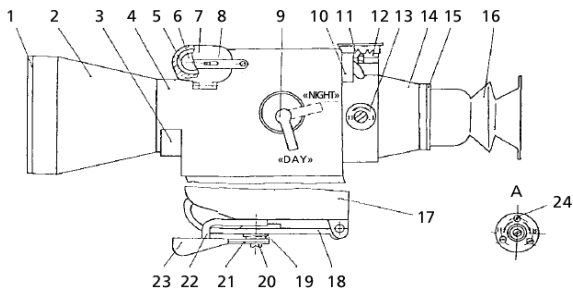

Figure 2
The sight consists of following components: objective (2) (figure 2) with mounted light filter (1), switching mechanism (4), eyepiece (14), and interchangeable mount (17) with fixing mechanism.
The sight has following controls (see figure 2):
- unclasp the clutch (15) (figure 2);
- take off the eyeshade (16) together with the clutch (15);
- put the eyeshade (16) into the case;
- put the clutch (15) on the eyeshade;
- Adjust the mounting seat groove (figure 2) with the mount type “dovetail”;
- Move the sight forward up to the stop and fix it, turning the handle (23) forward up to the total fixation on the mount (18). The sight should be screwed tightly to the mount;
- If the sight is not fixed tightly, take the sight off the weapon and regulate the clutch on the mount. For this purpose take off the latch (21) and assure that the handle (23) is placed on the number of jags that provide tight fixation of the sight, then place the latch (21) back on its place.